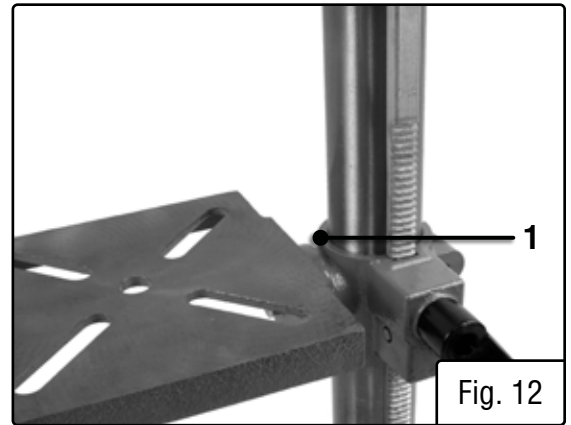

Fig. 12
TILT THE TABLE (FIG. 12)
2. Tilt the table to the desired angle, using the bevel scale (Fig. 12 - 1) as a basic guide.